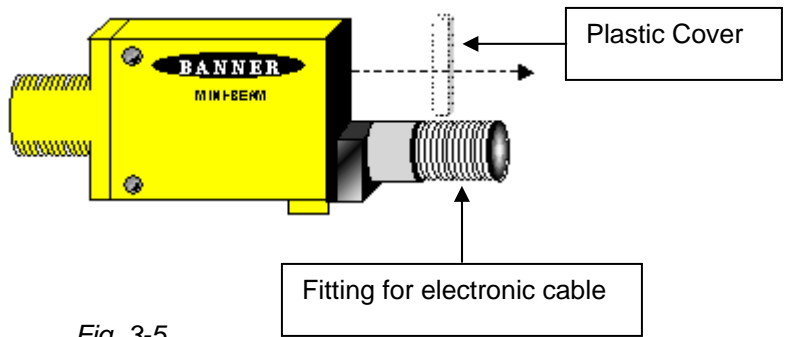

Fig. 3-5
14. Using a small flat blade screwdriver, remove the pan head screw in the plastic cover located on the sensor next to the electronic cable connection, see figure 3-5.